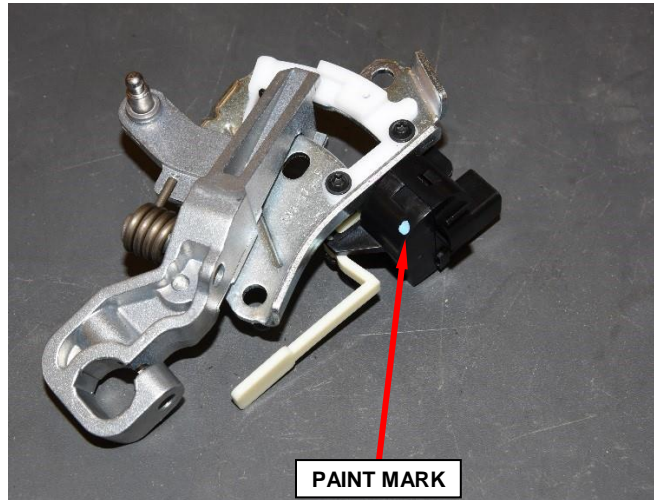

Figure 14 – Gearshift Bracket / BTSI Assembly Paint Mark Verification
- 25. Verify the **new** gearshift bracket / BTSI assembly to be used has a paint mark on the BTSI solenoid (Figure 14).